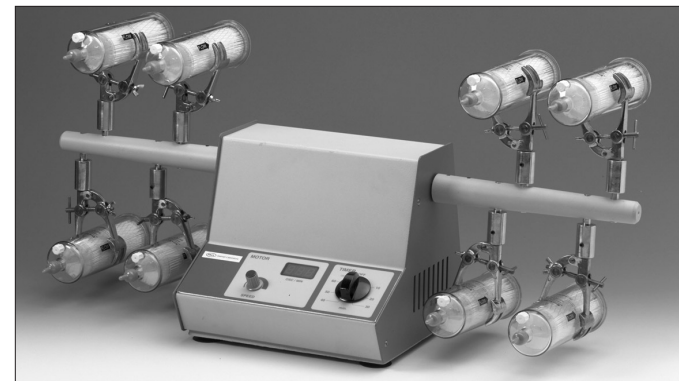

Figure 2: Proper assembly of Laboratory Shaker
- 3.1 Assemble the Laboratory Shaker with the arms at full extension and the clamps aligned in a vertical position so the capsules will be aligned horizontally, as demonstrated in Figure 2.